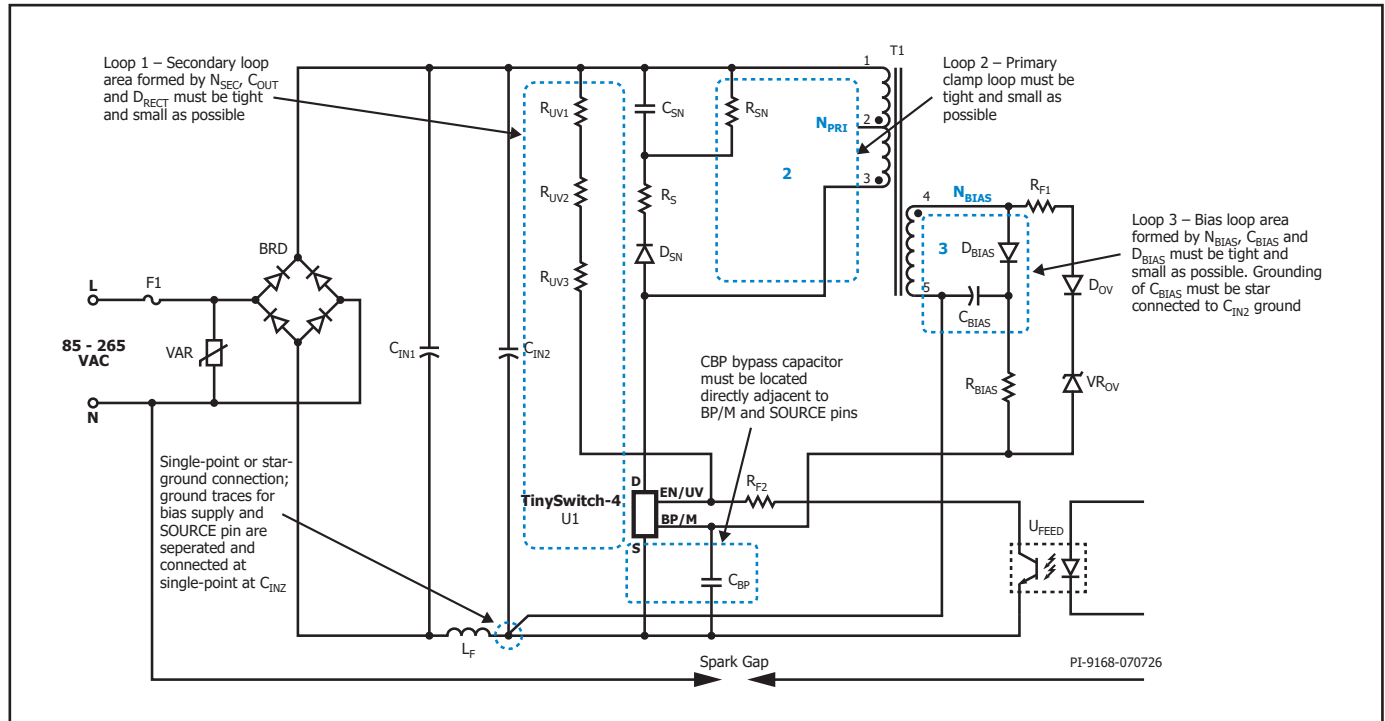
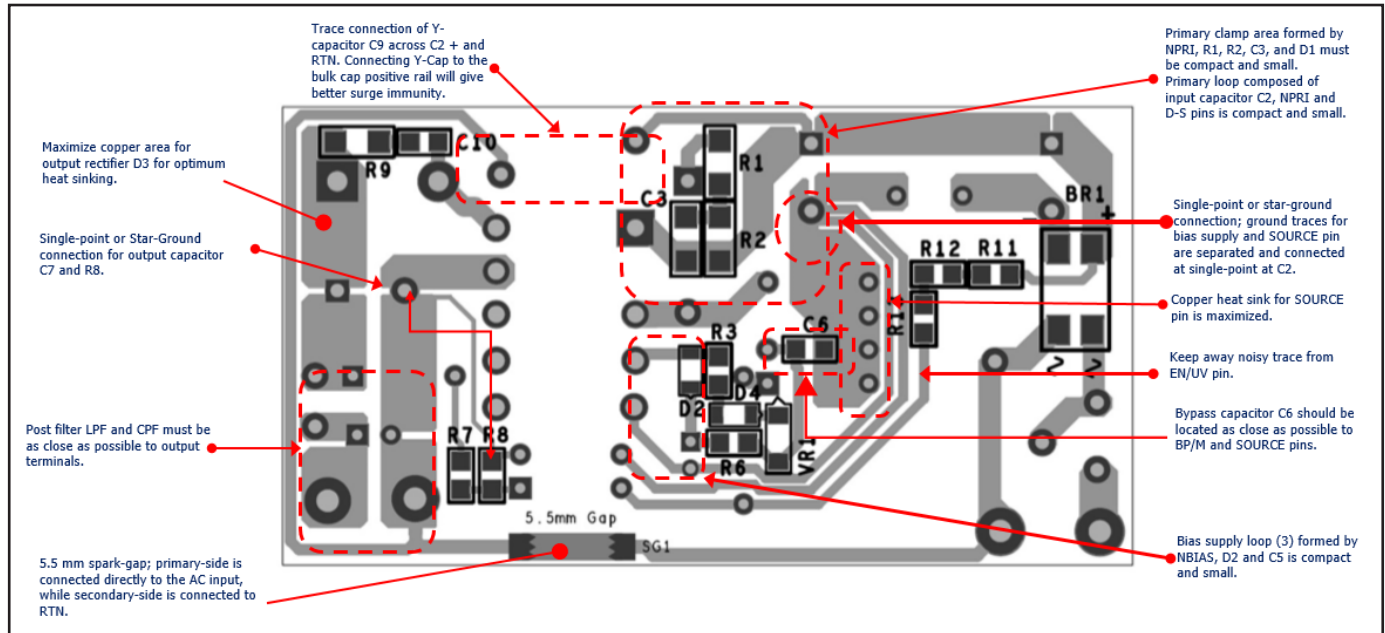

Figure 39. Primary-Side Typical Schematic of TinySwitch-4 Showing Critical Loops Area, Critical Component Traces and Single-Point or Star Grounding.
Figure 41. TinySwitch-4 Layout Guidelines: Bottom Side Layout of RDR-839.
See Figures 39 to 42 for a recommended circuit board layout for TinySwitch-4.
If a 0.1 μF bypass capacitor has been selected it should be a high frequency ceramic type (e.g. with X7R dielectric). It must be placed directly between the ENABLE and SOURCE pins to filter external noise entering the BYPASS pin. If a 1 μF or 10 μF bypass capacitor was selected, then an additional 0.1 μF capacitor should be added across BYPASS and SOURCE pins to provide noise filtering (see Figure 39).
The spark gap is best placed between output return and/or positive terminals and one of the AC inputs. A 6.4 mm is more than sufficient to meet the creepage and clearance. In the configuration shown on Figure 39 and layout example on Figure 41, a 5.5 mm spark gap is acceptable.
1. Appropriate component placement and small loop areas of the primary and secondary power circuits help minimize conducted and radiated EMI. Care should be taken to achieve a compact loop area. See Figure 39 to 42 for reference.
- Use a spark gap connected between secondary output terminals and one of the AC input. Reference Design RDR-839 placed the spark gap between RTN and Neutral terminal. A 5.5 mm gap is often sufficient to meet creepage and clearance requirements of applicable safety standards. See Figure 38 for schematic reference and Figures 39 to 42 for layout and component placement reference.
- Separate the ground trace of optocoupler U_{FEED} from the ground trace of bias capacitor C_{BIAS} . The two ground will be star-connected at the bulk capacitor C_{IN2} ground pin. This minimizes coupling of ESD. See Figure 41 and 42 for layout and component placement reference and Figure 38 for schematic reference.
The PCB layout and component placement of this application example is shown on Figure 41 and 42. The PCB of RDR-893 also has a provisions of changing TNY288 IC package for D and K as shown on Figure 27.